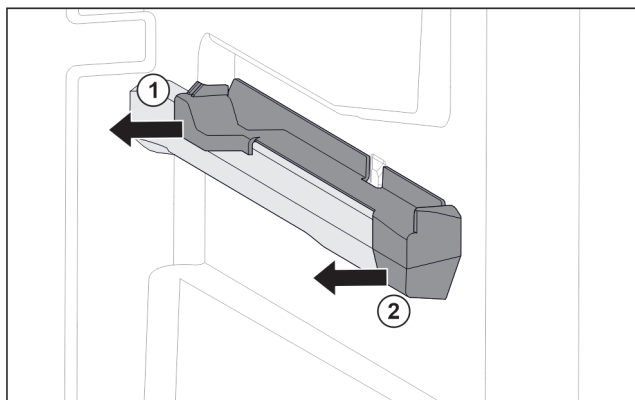

Fig. 74 Attachment on the right moulded rib
- Pull off attachment at the back sideways. Fig. 74 (1)
- Pull off attachment at the front sideways. Fig. 74 (2)